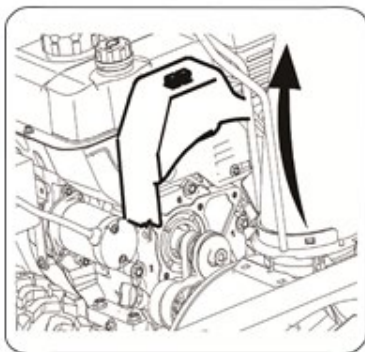

Fig.27
1. Remove the belt guard at the front of the motor by removing the two self-tapping screws. See figure 27.